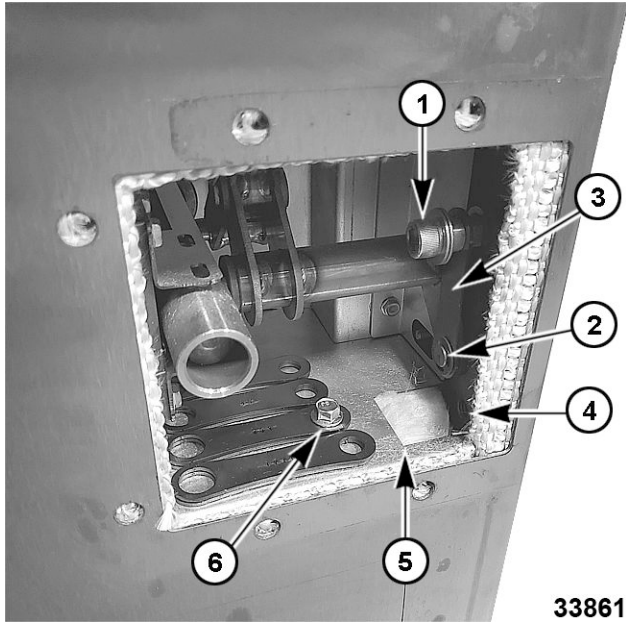

Fig. 76
NOTE: To prevent hardware from dropping into the inside of the door, cover the open space (5, Fig. 76) under latch arms.
- B. Remove 3/8" bolt (1, Fig. 76). DO NOT discard the tube, bolt, or washer.
- C. Remove E-clip and pin (2, Fig. 76). DO NOT discard the E-clip or Pin.
- D. Replace two latch arms (3, Fig. 76) with parts supplied. Reassemble inner mechanism, making sure linkage arms are located in the up position. Place unused arms in latch box and secure with 1/4-20 x 3/4" hex head serrated flange screw (6, Fig. 76). Reattach inner door handle.
NOTE: For left hand hinge, bolt and arms must be flipped and mounted to left-hand hinge hole (4, Fig. 76). Place unused arms in latch box and secure with 1/4-20 x 3/4" hex head serrated flange screw (6, Fig. 76).